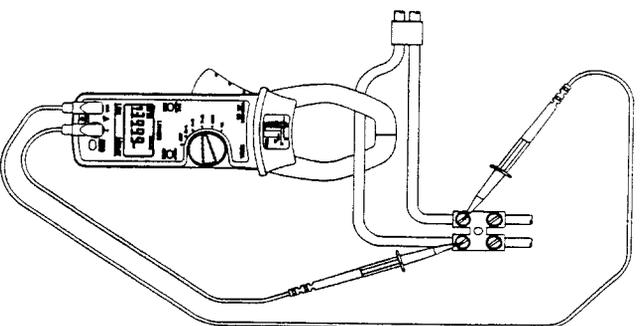

Fig. 4
- Press the trigger to open the jaws, and clamp them on the current carrying conductor, as shown in Fig. 4
- When configured to measure power (Fig. 4) with the test leads connected and the jaws clamped around a current carrying conductor, the instrument displays the frequency of the current source (providing ARMS > 10A) If ARMS < 10 OA, a volts frequency measurement will be made (providing VRMS > 10V), otherwise ---- will be displayed